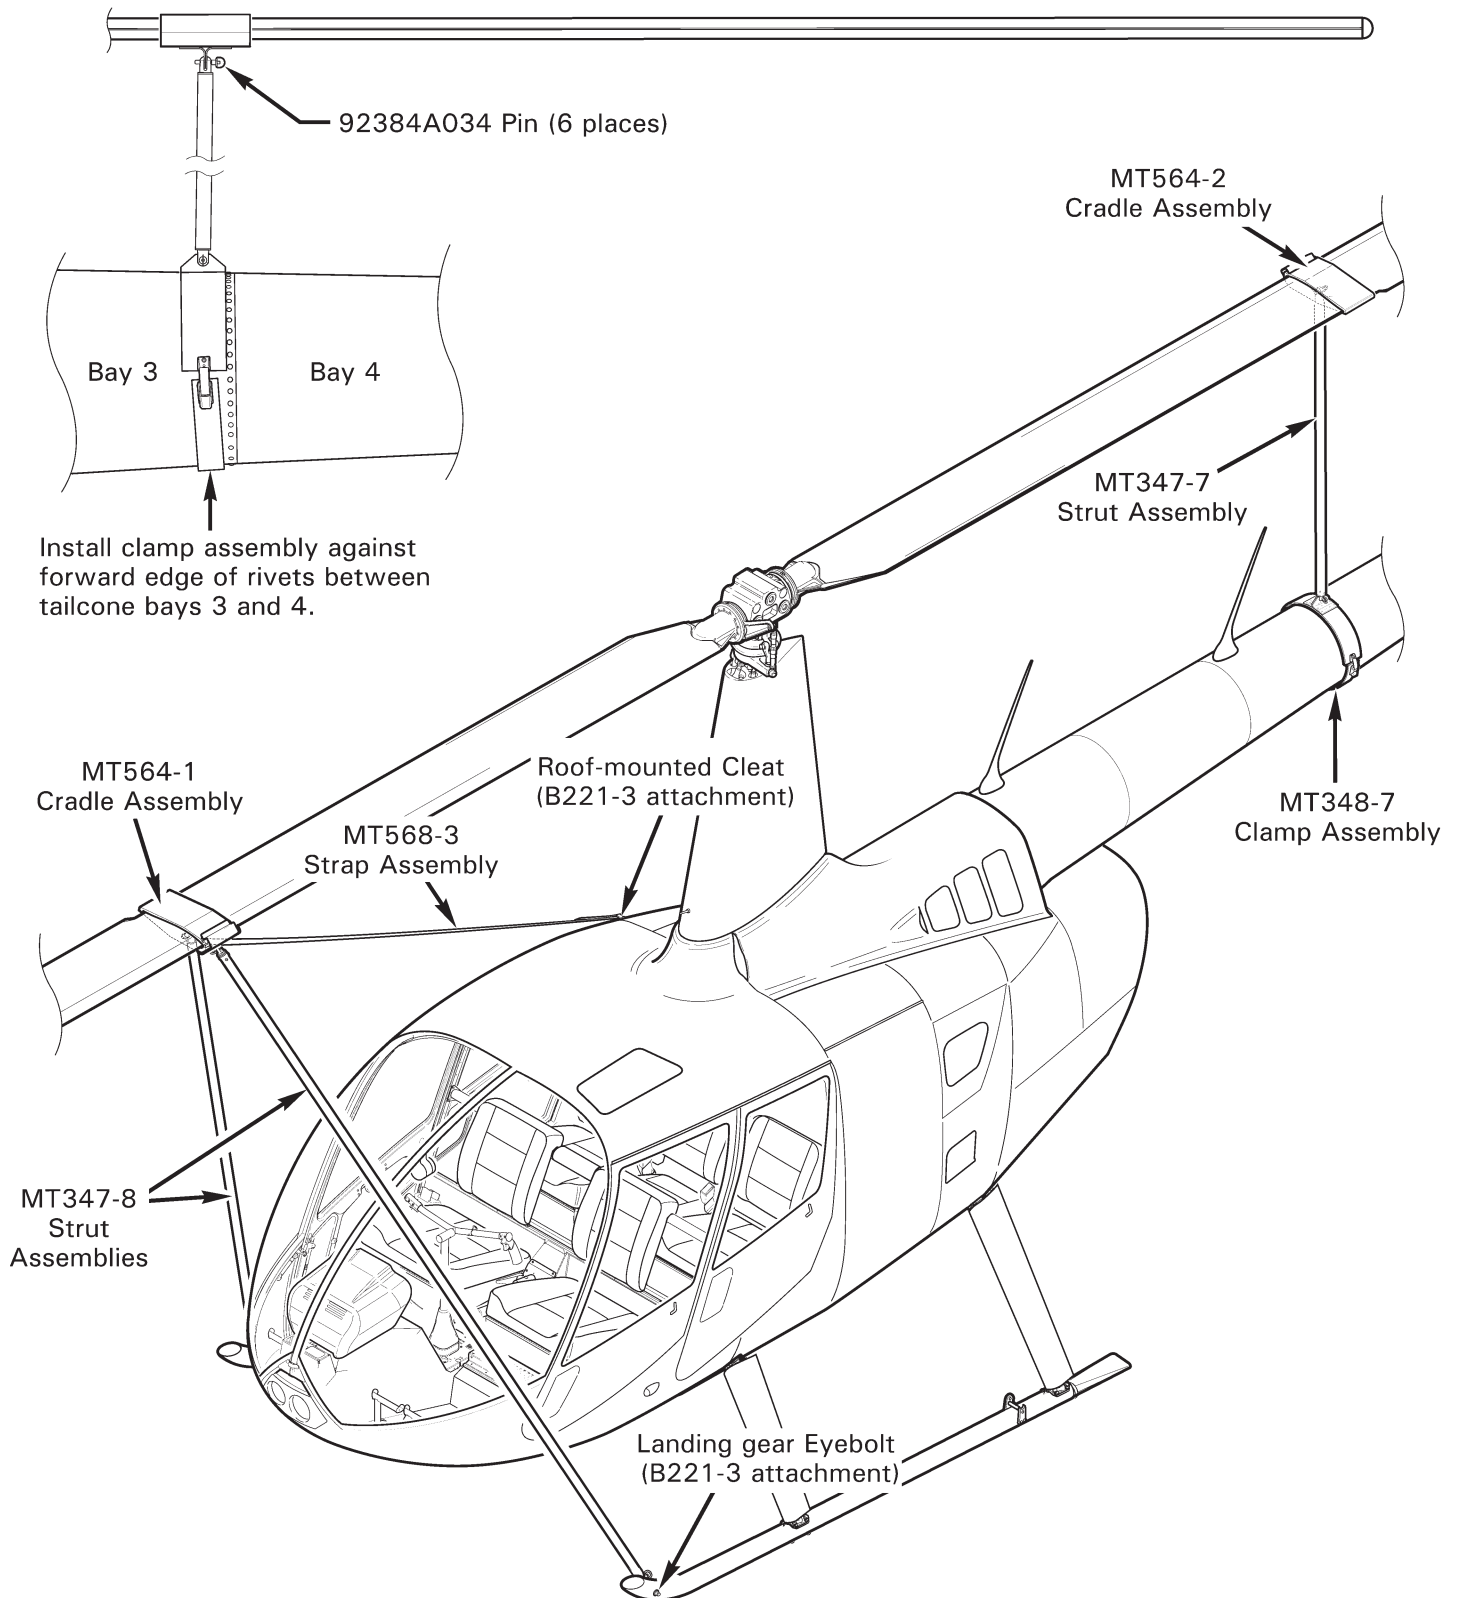

FIGURE 10-2 MAIN ROTOR BLADE SUPPORTS
1. Refer to Figure 10-2. Remove 92384A034 retaining pins securing MT347-7 strut assembly to MT564-2 cradle assembly and MT348-7 clamp assembly; remove strut assembly. Remove cradle and clamp assemblies.
1. Refer to Figure 10-2. Position main rotor blades approximately fore and aft.